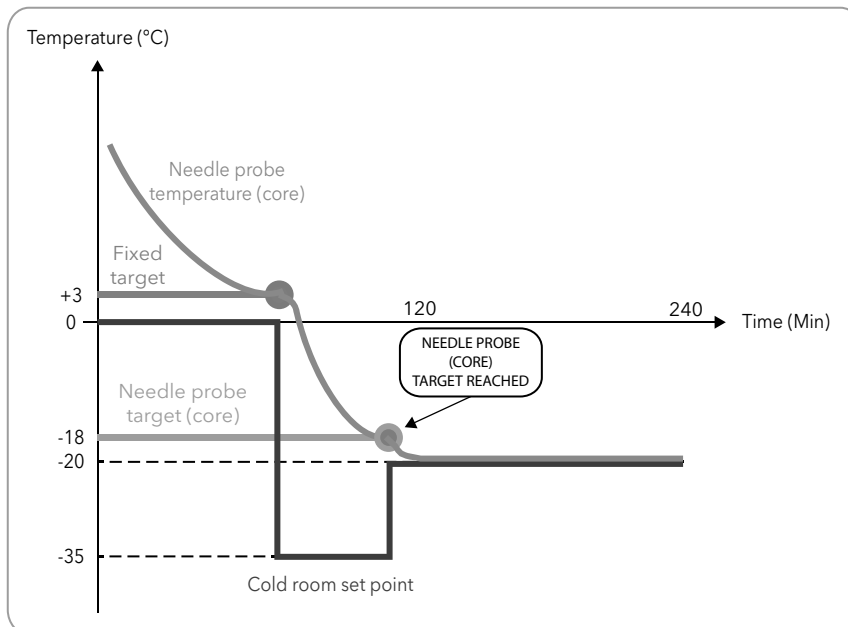

Fig. 13. Negative program with soft blast chill mode
- negative (freezing), with negative reference temperature (target temperature), and soft blast chill mode (**Fig. 13** on page 66).
The numeric values shown in **Fig. 13** on page 66 are the default values.